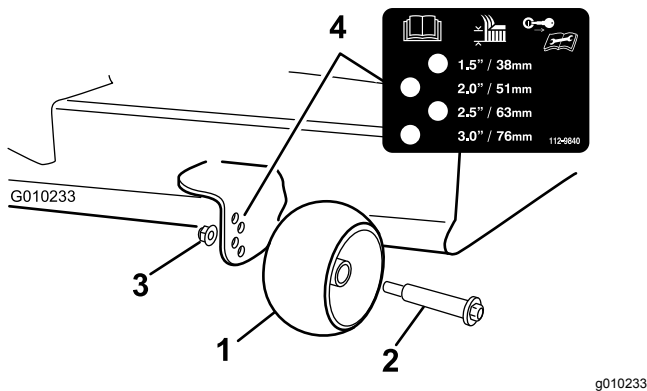

Figure 24
3. Adjust the anti-scalp rollers (Figure 24) to match the closest height-of-cut position.